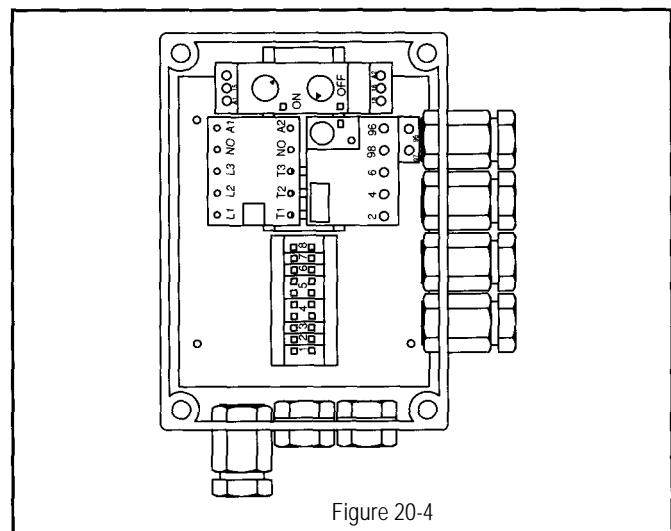

Figure 20-4
5. Remove the wires to the failed component (timer, overload or contactor) then remove the component from the din rail (see figure 20-4).